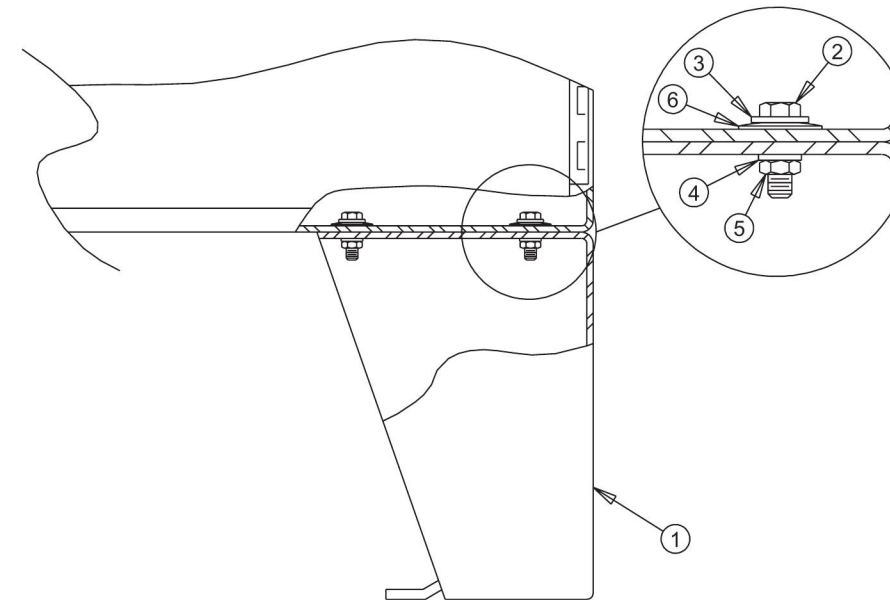

Figure 3
4. Bolt the floor stand to the enclosure as shown in Figure 3 using the 3/8-16x1.00 hex head screws (Item 2), washers (Items 3 and 4), and nuts (Item 5) provided. Firmly tighten all fasteners.